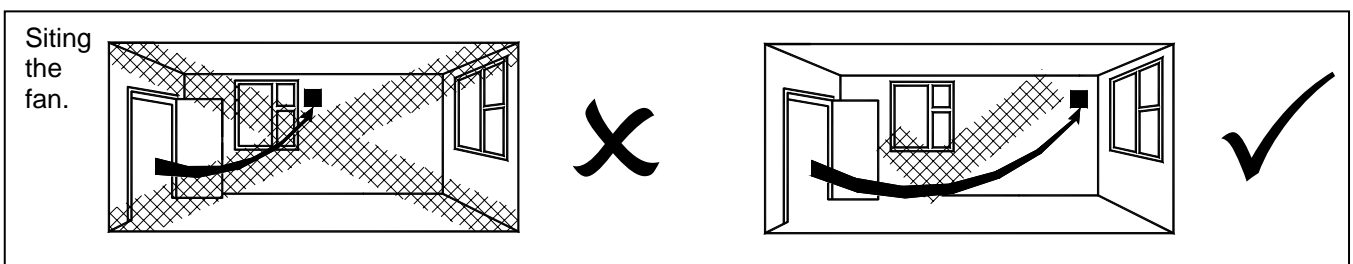

Fig.1 Continuous trickle (6l/s or 9l/s) with no boost facility (T,HT &HTP – But HTP can be boosted via pullcord)
1. Select and follow the appropriate wiring diagram. (Fig. 1, 2 or 3)